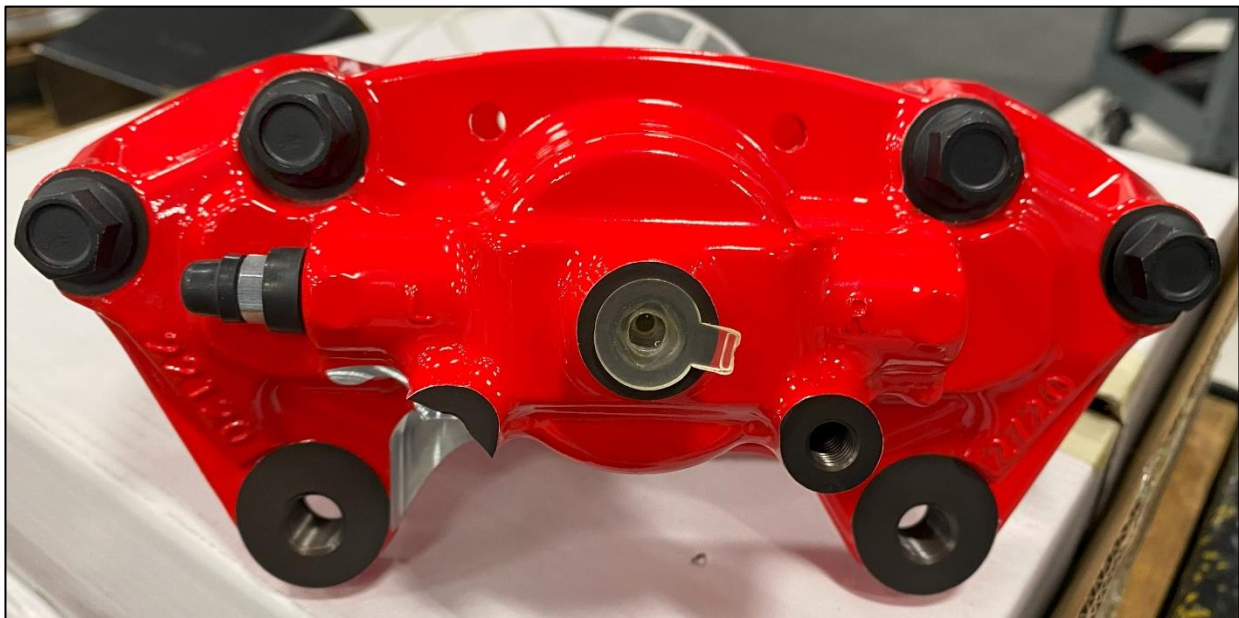

Figure 4
13. Locate the Driver Side Caliper. The Calipers are marked with an **L** and an **R**. The sides are indicated by which side the Bleeder Valve is on. The Driver Side Caliper will be the one marked with the **L**. The Bleeder Valve of the Caliper **MUST** point upwards when installed. *Figure 4.*